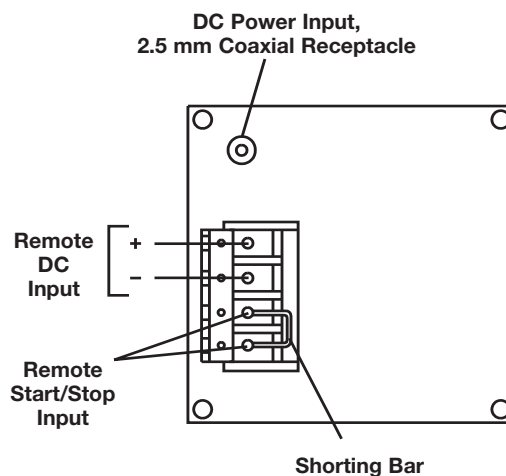

Figure 1-3. Pump Drive — Rear Panel
The rear panel, Figure 1-3, contains a DC power input jack for connection of primary power and a 4-terminal barrier strip for connection of remote start/stop and for a DC backup supply. Remote Start/Stop: Terminals 3 and 4 on the rear panel terminal strip, (Figure 1-3) are used for remote start/stop operation. Pump direction and speed are not remotely controllable. In non-remote operation, these terminals are connected together by a shorting bar. For remote control by switch closure, remove the shorting bar and connect the two terminals of an isolated remote control switch or relay to terminals 3 and 4. A closure of the remote switch contacts will turn the pump system on. Opening the contact will turn the pump system off.
3. Connect the external power supply to the applicable input voltage source and the output of the external power supply to the DC input connector on the pump unit. (See Figure 1-3.)
4. Terminals 1 and 2 on the rear panel barrier terminal strip, provide a means for connecting a remote DC power source. The positive (+) terminal is terminal 1. The negative (-) terminal is terminal 2. (See Figure 1-3.)